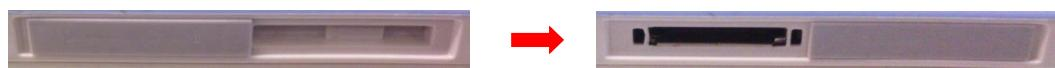

Figure 2.12 Open and secure the protective cover
1. Open and turn the protective cover of the docking port to the opposite side and press to lock it into its reserved slot. (See Figure 2.12.)